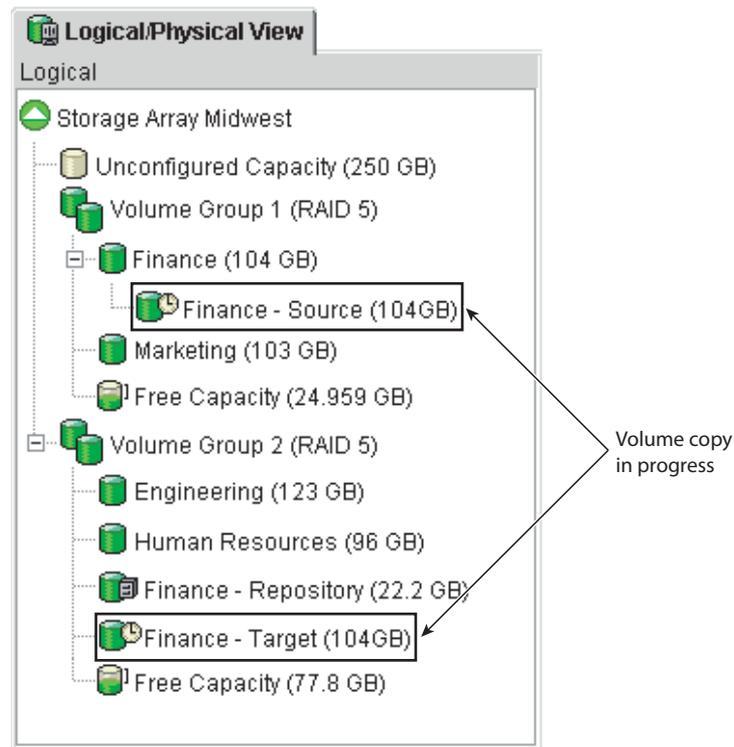

Figure 4-37 Creating a Volume Copy the Snapshot Volume Finance-Copy
- 8. Use the Create Copy Wizard to create a new volume copy, using the snapshot volume as the source volume and the volume you created in step 7 as the target volume, as shown in Figure 4-37.